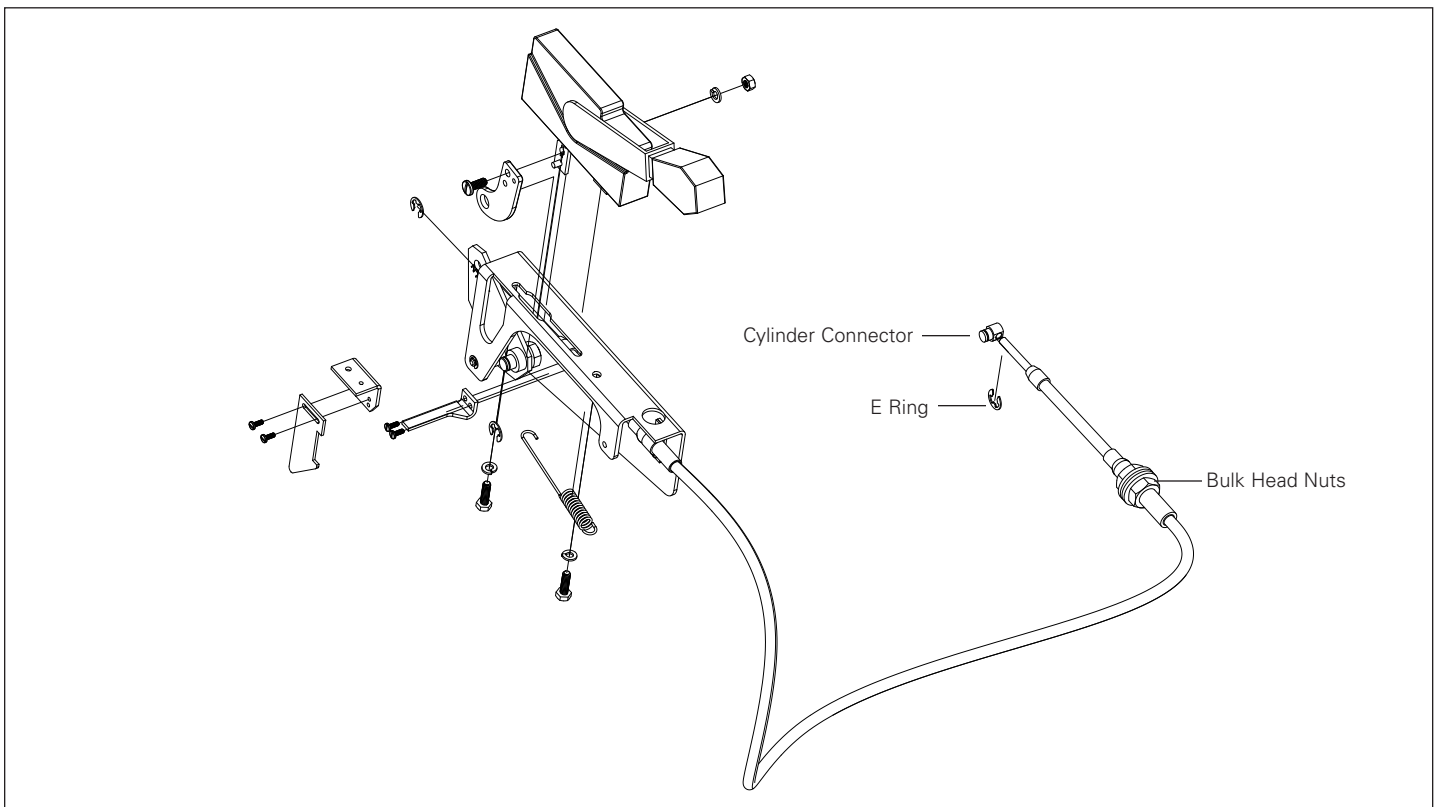

Figure 5. Assembly Exploded View.
4. Mount the end of the flex shaft operator to the Switch Mechanism Bracket. To do so, thread the two Bulk Head Nuts to create a gap, and slide the gap into the Switch Mechanism Bracket. One Bulk Head Nut will be above the bracket, and one below (see Figure 5). The Bulk Head Nuts should be located low on their thread ends.
5. Insert the Cylinder Connector into the switch mechanism and secure with E-Ring (see Figure 5). Cylinder Connector should be threaded down such that approximately 4 or 5 threads are visible from the top.
6. With the OLI cover open, press down on the Switch Cover Defeater (see Figure 5) and actuate the Outer Handle Mechanism (ON, OFF) which is mounted on the customer enclosure. Ensure that OLI switch turns ON and OFF properly with handle throws. If minor adjustments are necessary, refer to the following adjustment checklist. Tighten the Bulk Head Nuts to secure the end to the bracket.